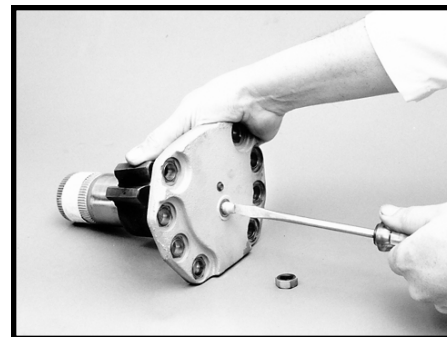

Figure 142
36. Apply a generous amount of clean grease to the short bearing area of the sector shaft (48), and insert the sector shaft into the side cover (56). Screw the adjusting screw into the side cover until it reaches solid height. Then, back out the adjusting screw one turn, so that the side cover rotates freely on the sector shaft. SEE FIGURE 142.